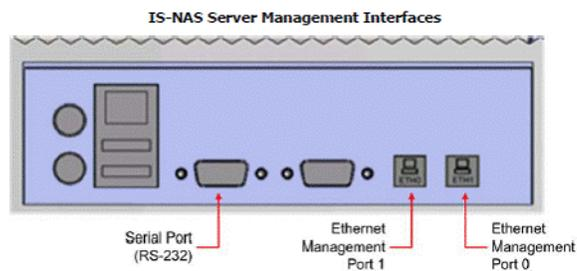

Figure 1-10 Ethernet Connections on the IS-NAS Server
1. Connect a cross-over ethernet cable from a laptop or PC to the primary ethernet port (Port 0) on the IS-NAS server. See Figure 1-10.